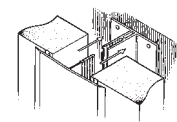

FIGURE 5
6. Guide the top PVC section along insulation board edge until it snaps into the Interlocking System base (Figure 5).